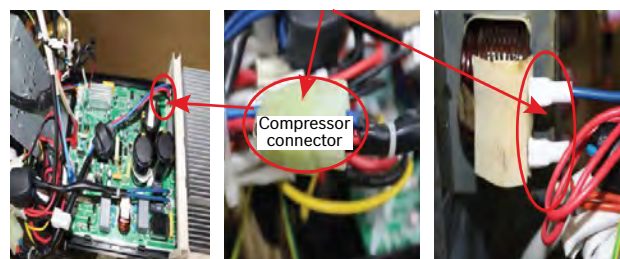

Figure 102
3. Remove the screw of the coil (Fig.102, pos.1) and then remove the coil.
4. Detach the welded parts (Fig.102, pos.2) of reversing valve and pipe.